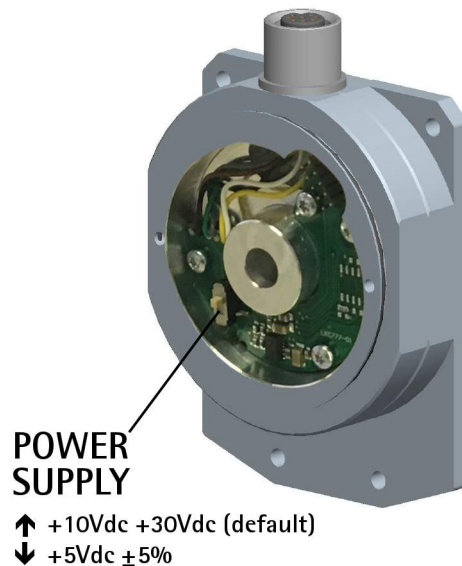

Figure 6
* The power supply voltage level must be set through the POWER SUPPLY DIP switch located inside the enclosure of the converter, see the "4.5 POWER SUPPLY DIP switch (Figure 6)" section on page 27.
4.5 POWER SUPPLY DIP switch (Figure 6)